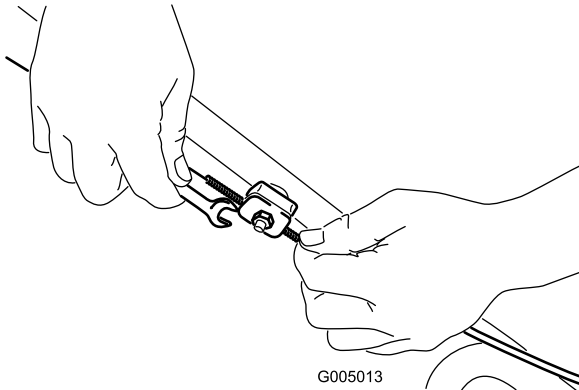

Figure 29
1. Loosen the cable-support nut (Figure 29).